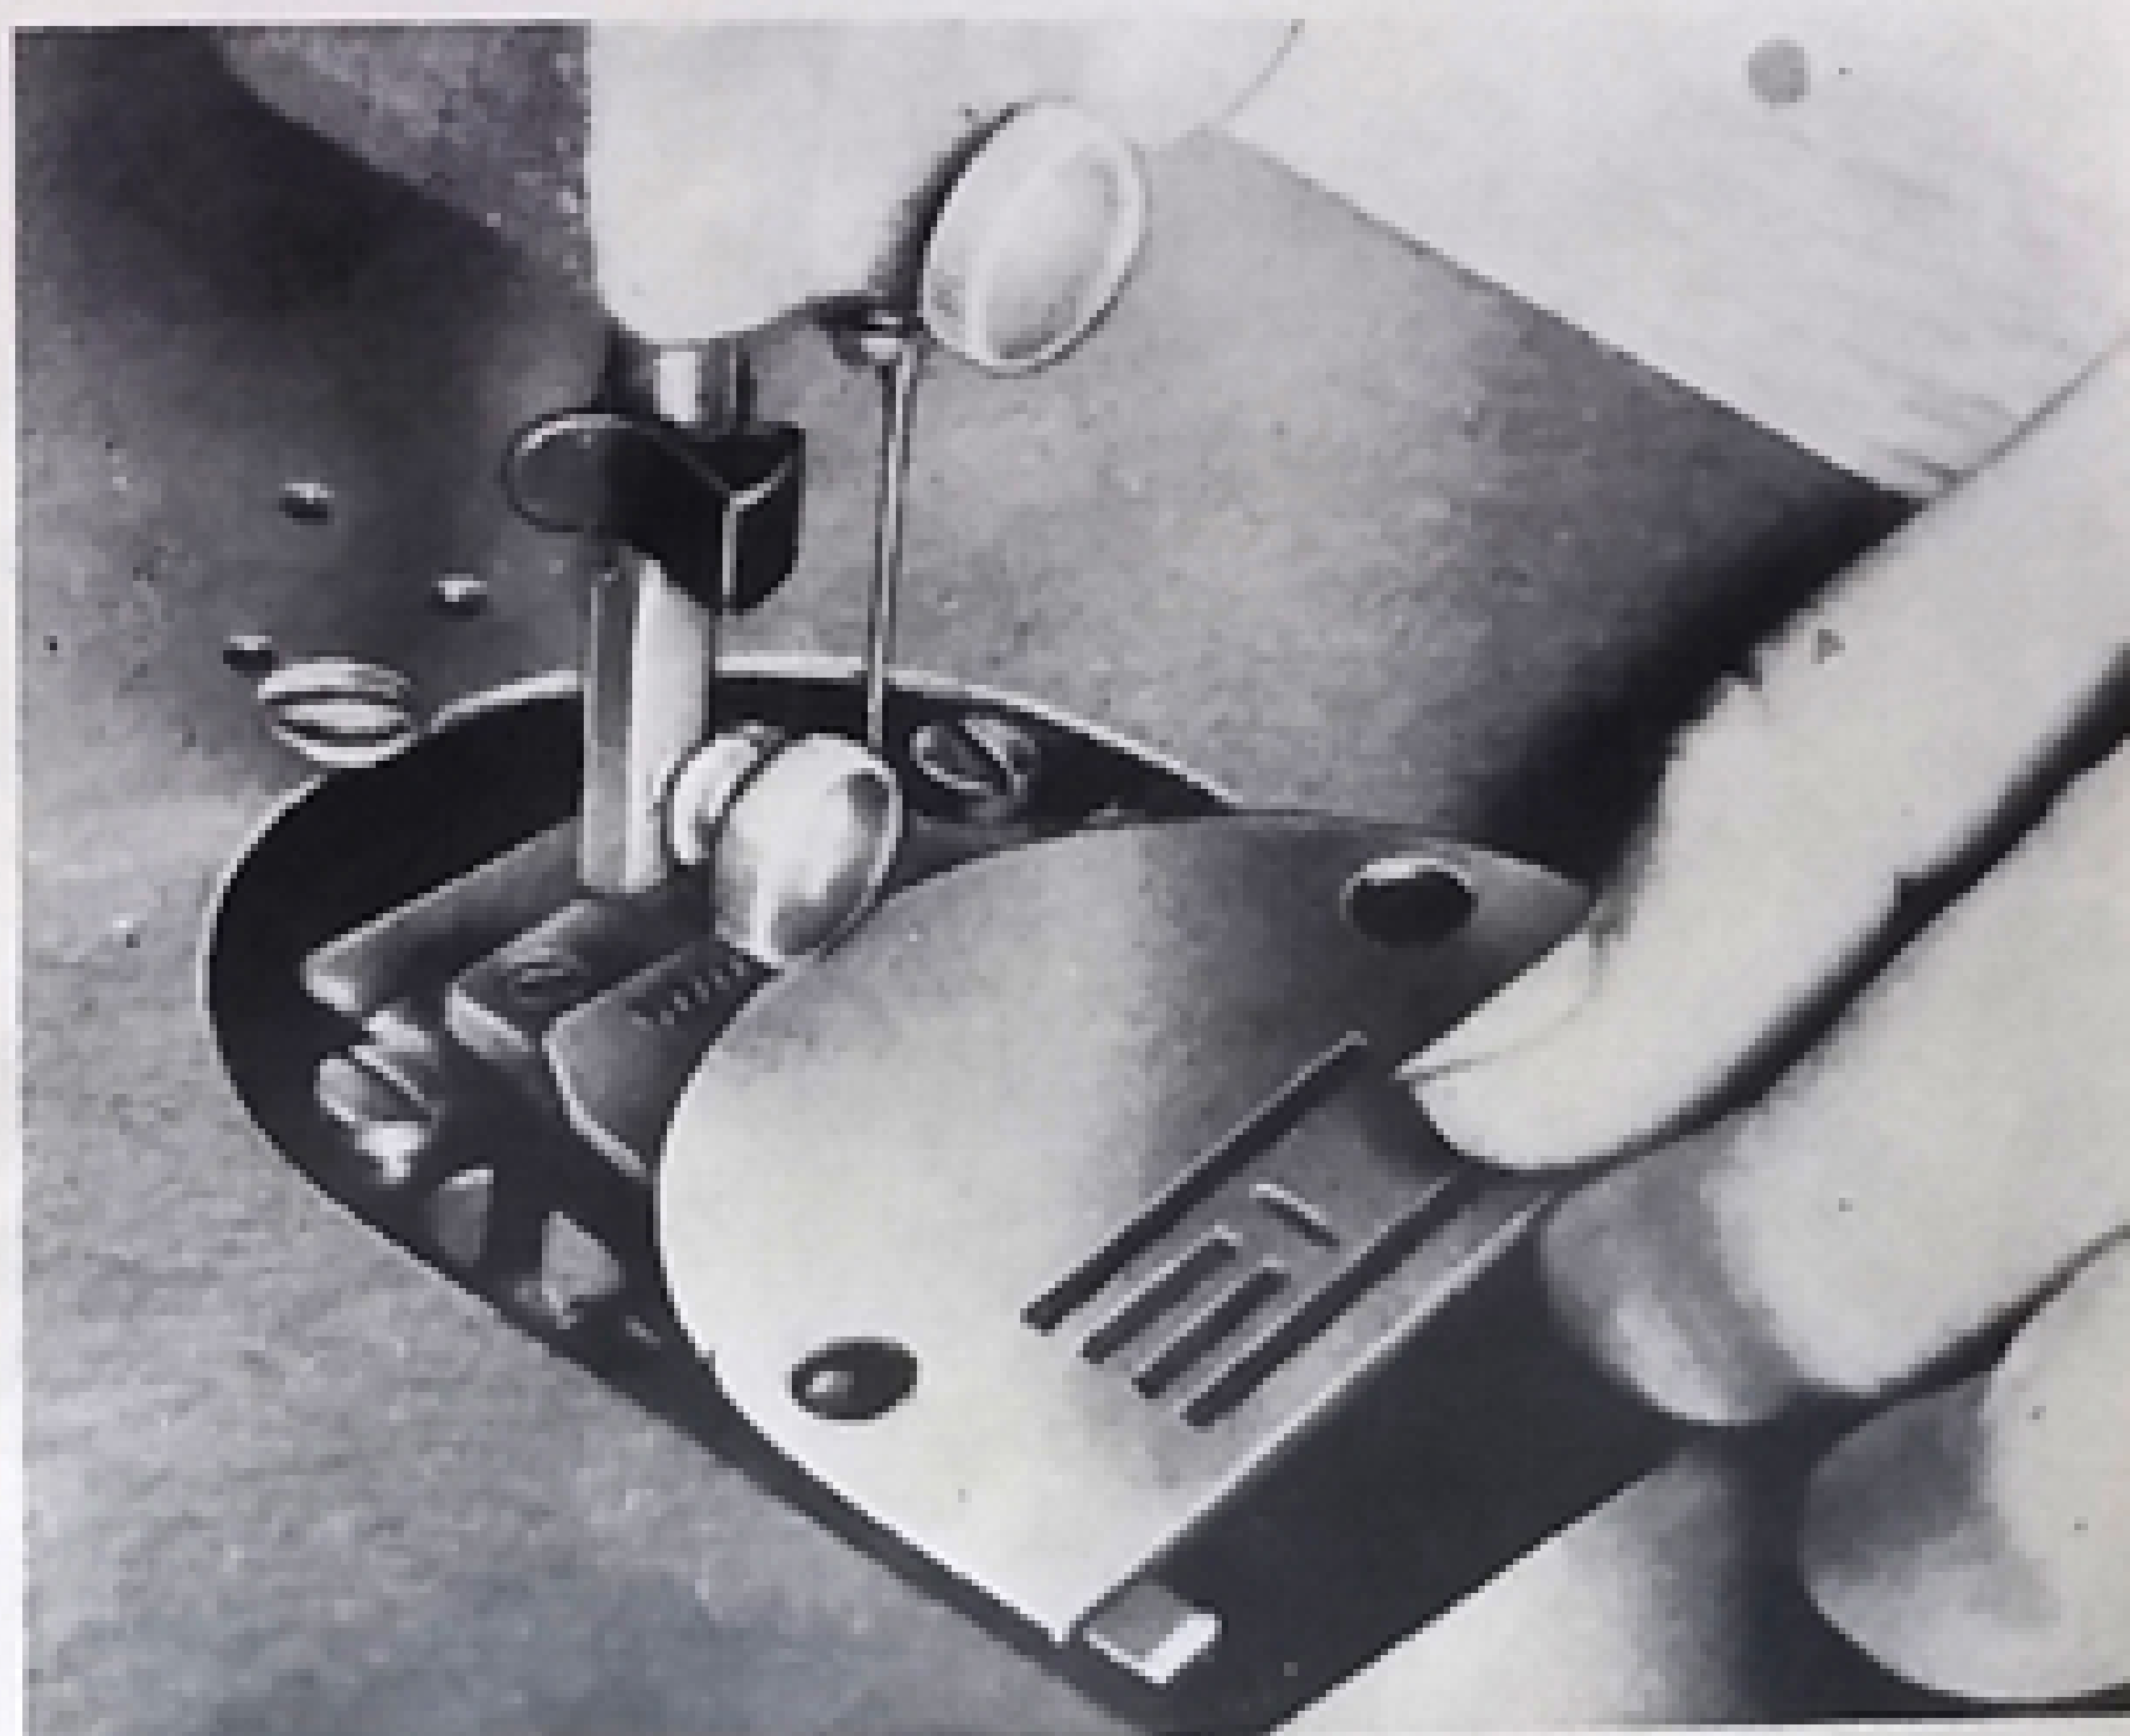

Fig. 17
4. Using thumb and forefinger, lift out the needle plate as shown in Fig. 17.